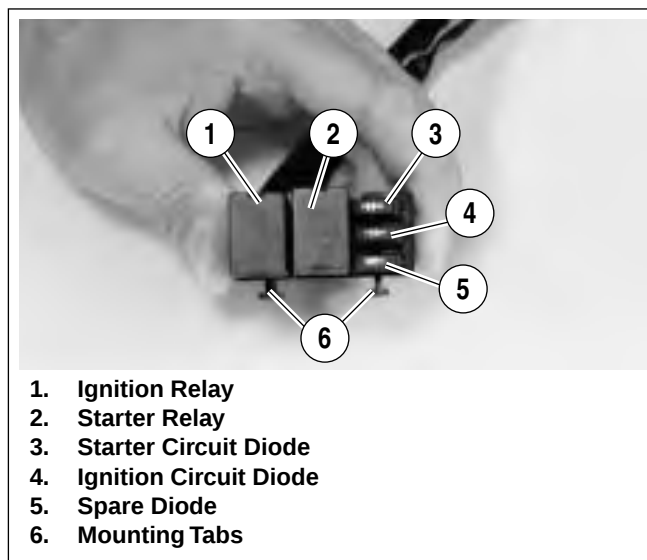

Figure 7-16. Relay Block
See Figure 7-16 The ignition relay (1) is on the relay block under the tail section along the right side frame tube. Test the relay as follows:
See Figure 7-16 The starter relay (2) is on the relay block under the tail section along the right side frame tube. See 5.3 STARTING SYSTEM DIAGNOSIS.
See Figure 7-16 The ignition fuse is in the fuse block under the right side of the tail section. Always replace the fuse with another 20 ampere fuse.
1. See Figure 7-16 Remove seat and locate diodes within relay block.
See Figure 7-16 Attached to the frame above the battery, the main circuit breaker (1) is between the ignition key switch and the battery. Remove the main circuit breaker as follows:
2. Remove battery negative cable (3) from frame.
3. See Figure 7-16 Remove nuts (5), star washers (4) and wire leads (6, 7 and 8) from circuit breaker studs.
4. Remove circuit breaker (3) from circuit breaker clip (1).